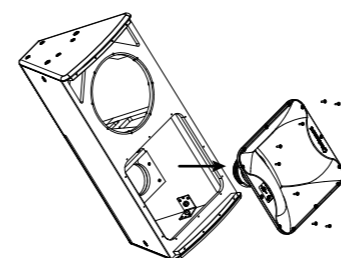

Fig. 4
5. Remove the horn fixing screws that secure the horn to the enclosure and lift out the horn and compression driver assembly (fig 4). (If required for servicing or replacement, disconnect the cables from the compression driver, making a note of the polarity for later reconnection.)
11. Replace the horn fixing screws and tighten to secure the horn back into the enclosure (fig 4).